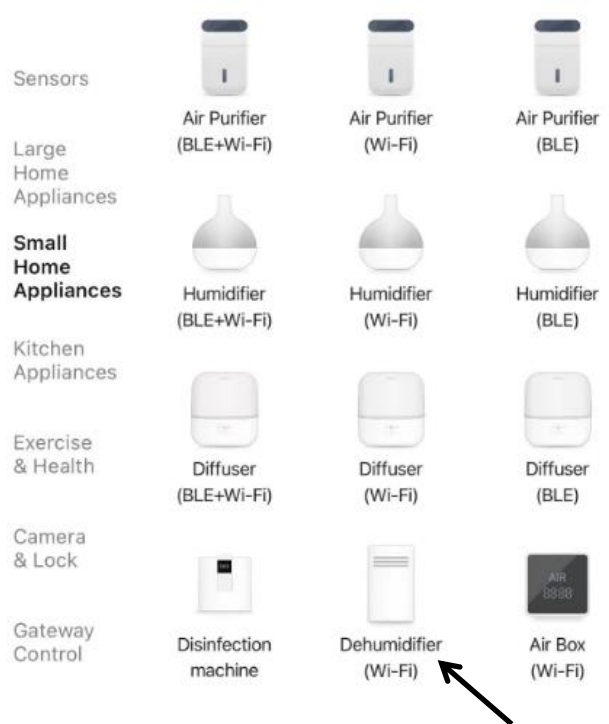

Fig.2
3. Find “Small Home Appliances” and tap the icon “Dehumidifier (Wi-Fi)”. (Fig.2)